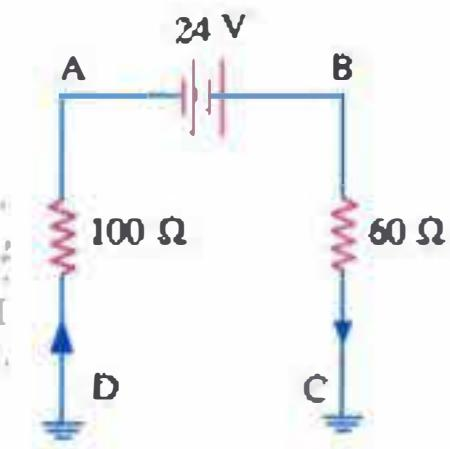

Fig. 2.8
**Example. 2.2.** In the circuit of Fig. 2.8, calculate